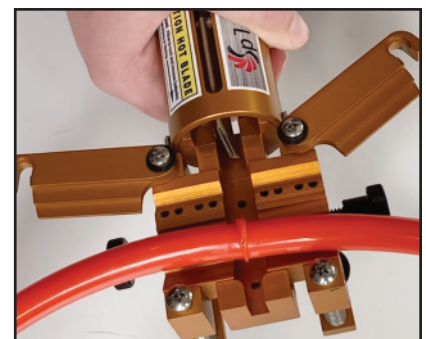

Figure 5
14. Loosen the belt clamp lock screws and compress the springs to release the welded belt. The top bars of the belt clamp will swing away to allow the welded belt to be removed (see Figure 5).